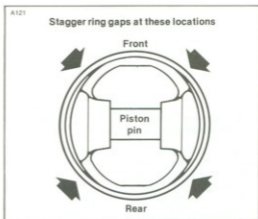

Figure 3-24. Positioning Ring Gaps
6. See Figure 3-24. Ring gaps should be staggered on either side of the piston pin. Do not place ring gaps at thrust surfaces of piston. Also, gaps on the oil control ring top and bottom rails should be spaced 1 in. either side of the oil control expander ring gap.